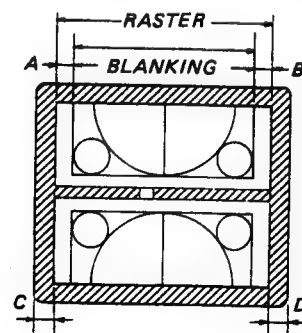

Fig. 23-1
- V. DELAY switch IN (IN)
3. Adjust RV1 and RV7 on the DA board so that the raster can all be seen by RV1 and RV7 as shown in Fig. 23-1.
4. Adjust RV26 on the DA board so that the outside portions of the raster become equal at the right and the left sides as shown in Fig. 23-1.